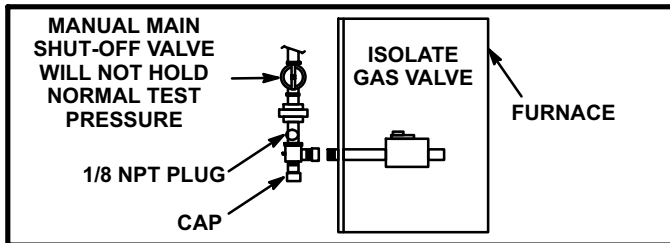

FIGURE 18
**When testing pressure of gas lines, gas valve must be disconnected and isolated. See figure 18. Gas valves can be damaged if subjected to pressures greater than 1/2 psig (3.48 kPa, 14 inches w.c.).**